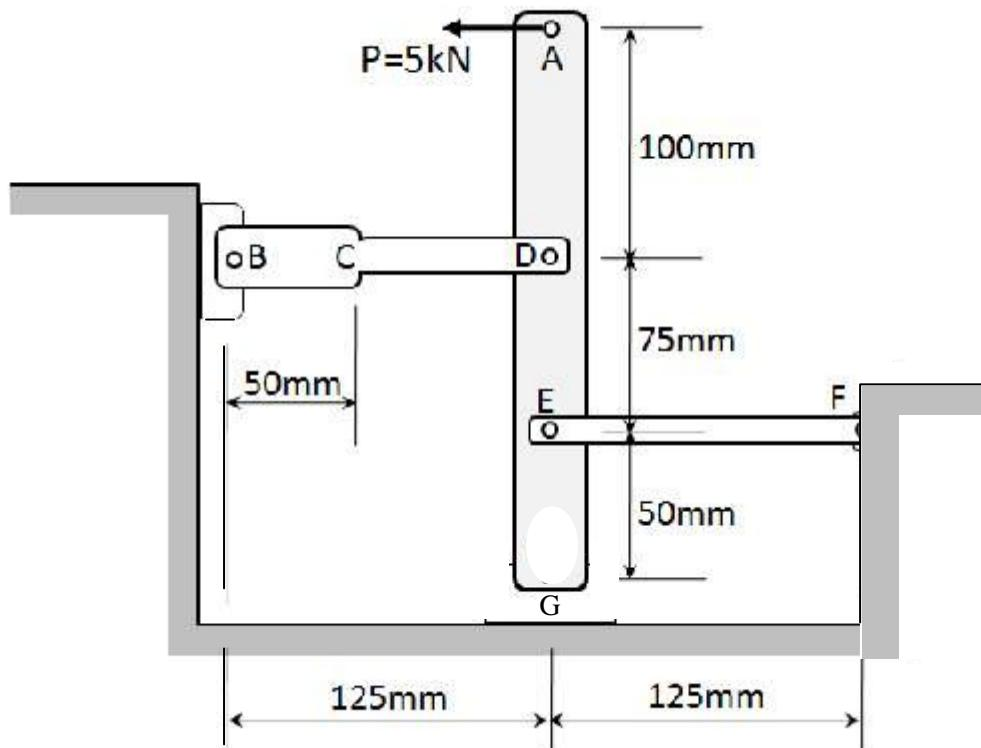

Figure 4
2. The vertical rigid member ADEG in Figure 4 is connected to links BCD and EF at pin joints D and E, respectively. Link BCD is pinned supported at B while link EF is fixed supported at F. Dimensions of rectangular cross-section of links BCD and EF are as follows: portion BC of link BCD – 25mm × 6mm, portion CD of link BCD – 15mm × 6mm and link EF – 12mm × 6mm. Both links BCD and EF are made of steel with elastic modulus  $E=200\text{GPa}$ . A horizontal load  $P = 5 \text{kN}$  acts at A. Determine: